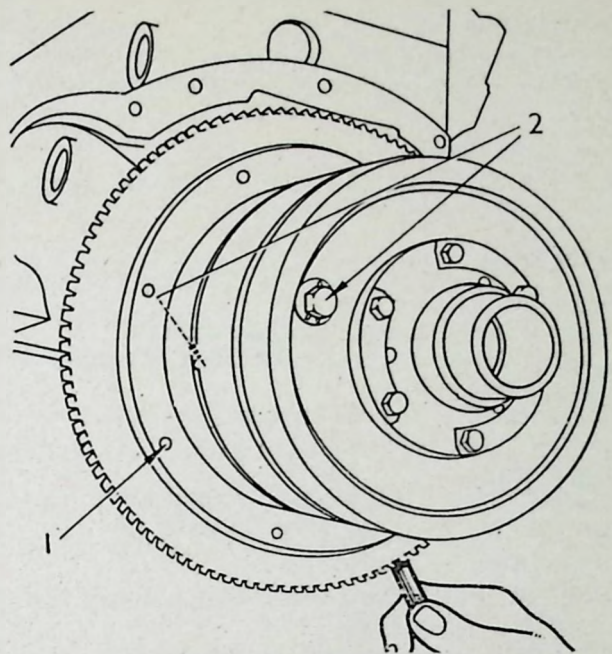

FIG. 32.—Removing rotor.
N.B.—Replacement rotor assemblies are supplied empty and will require filling. Correct powder charges are supplied in separate containers. Ensure that each half of coupling is charged through its respective filler hole (2, Fig. 32). For filling instructions see "Servicing the Coupling", page 46.
- Remove the rotor nuts (1, Fig. 32).